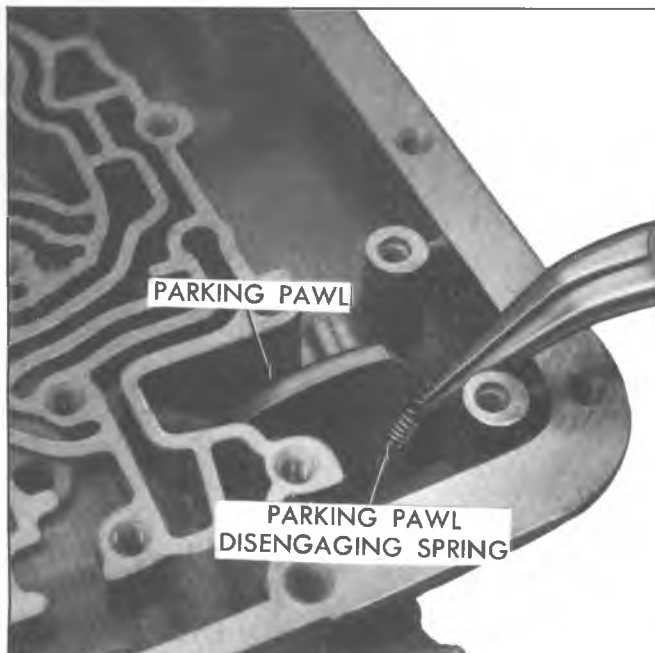

Fig. 23N--Removing Parking Pawl Disengaging Spring
15. Remove parking pawl disengaging spring (fig. 23N).